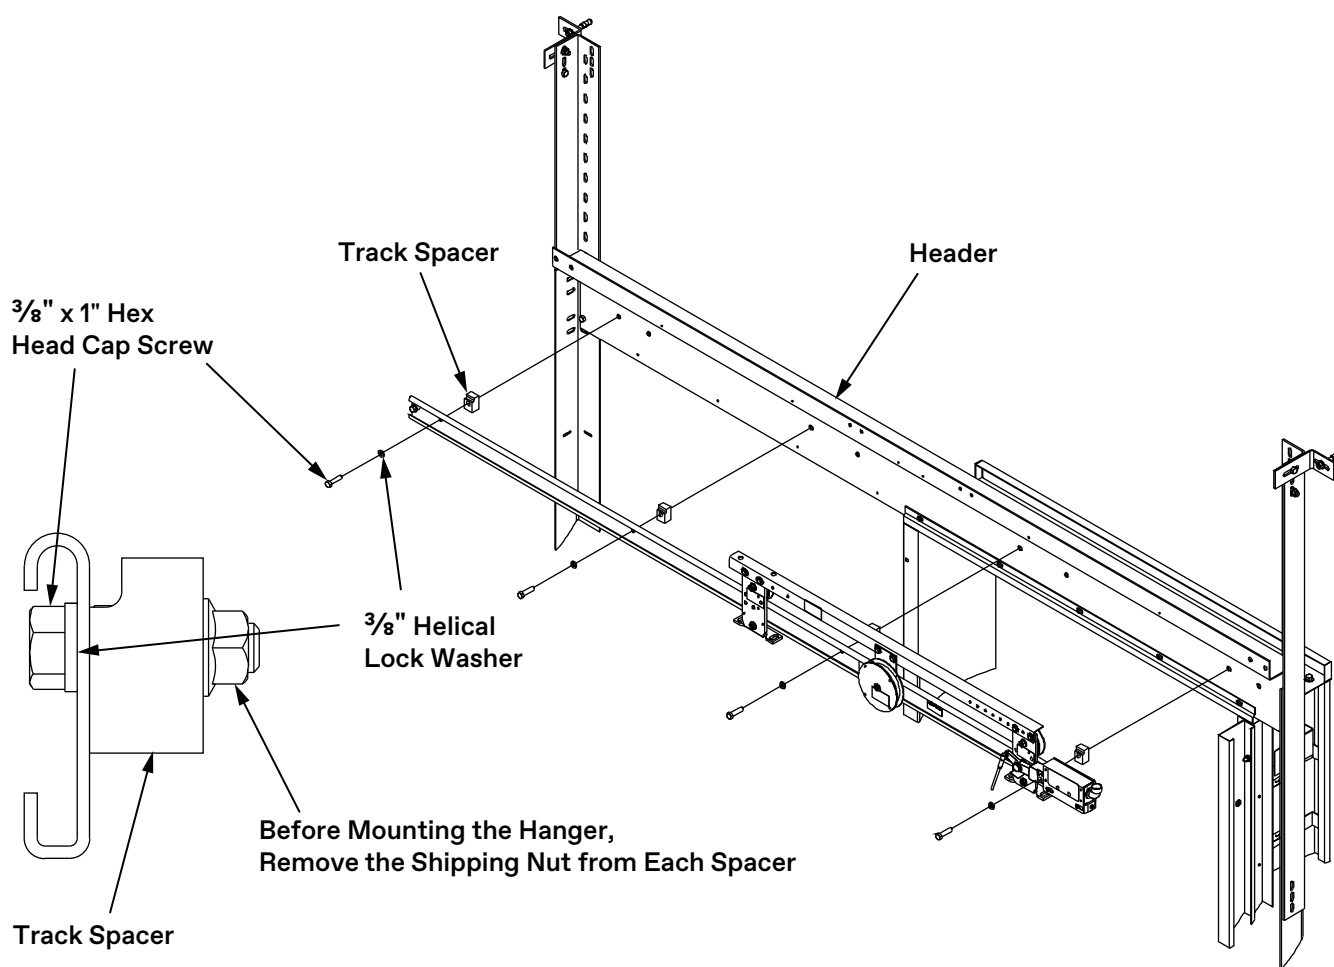

Figure 26 - Install Hoistway Hangers
3. Remove the shipping nuts from the $\frac{3}{8}$ " mounting screws. See Figure 26.